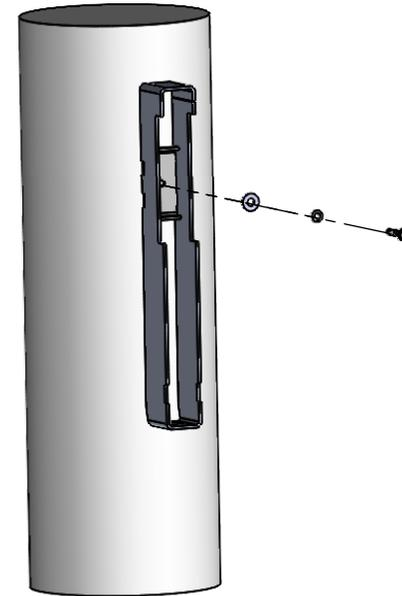

Figure 1
- Position the PBSCM bracket on the wood pole at the desired location and height. Using the 1 1/2" long lag screw (1/4-10X1-1/2XXHHGV), a helical spring washer (HSR1/4HS), and a flat washer (FPA1/4-NSS) insert the screw through the hole of the center mounting plate of the bracket, and tighten until snug. (Figure 1)